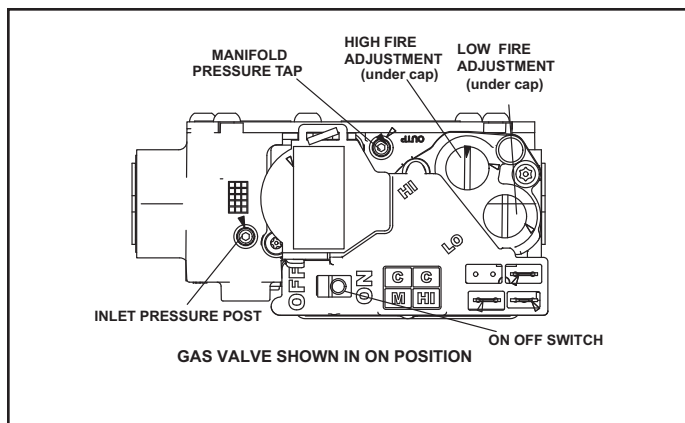
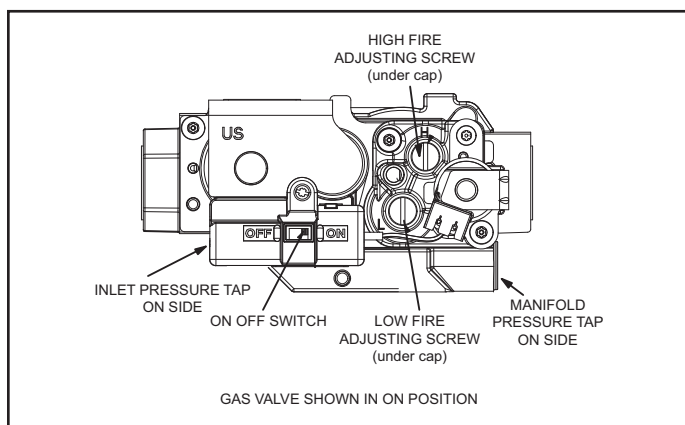

Figure 27. White Rodgers Gas Valve
Figure 28. Resideo Two-Stage Gas Valve
See Figure 27 or Figure 28
6. Move switch on gas valve to OFF. Do not force. See Figure 27 or Figure 28.
8. Move switch on gas valve to ON. Do not force. See Figure 27 or Figure 28.
An inlet post located on the gas valve provides access to the supply pressure. See Figure 27 or Figure 28. Back out the 3/32" hex screw one turn, connect a piece of 5/16" tubing and connect to a manometer to measure supply pressure. See Table 21 for supply line pressure.
A manifold pressure tap located on the gas valve provides access to the manifold pressure. See Figure 27 or Figure 28. Back out the 3/32" hex screw one turn, connect a piece of 5/16" tubing and connect to a manometer to measure manifold pressure.
1. Connect test gauge to manifold pressure tap (Figure 27 or Figure 28) gas valve.
4. If necessary, make adjustments. Figure 27 and Figure 28 show location of high fire and low fire adjustment screw.